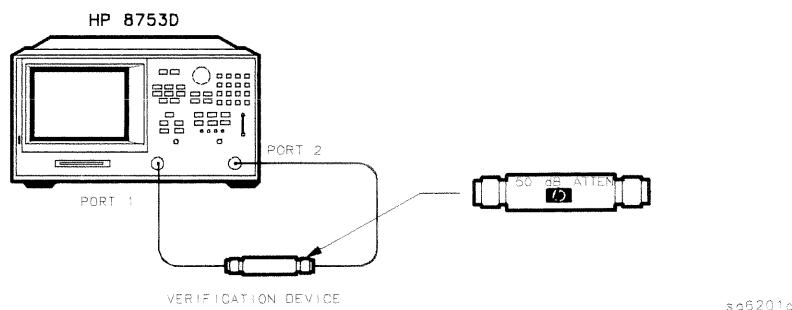

Figure 2-11. Connections for the 50 dB Verification Device
40. Connect the 50 dB attenuator (supplied in the verification kit) as shown in Figure 2-11.